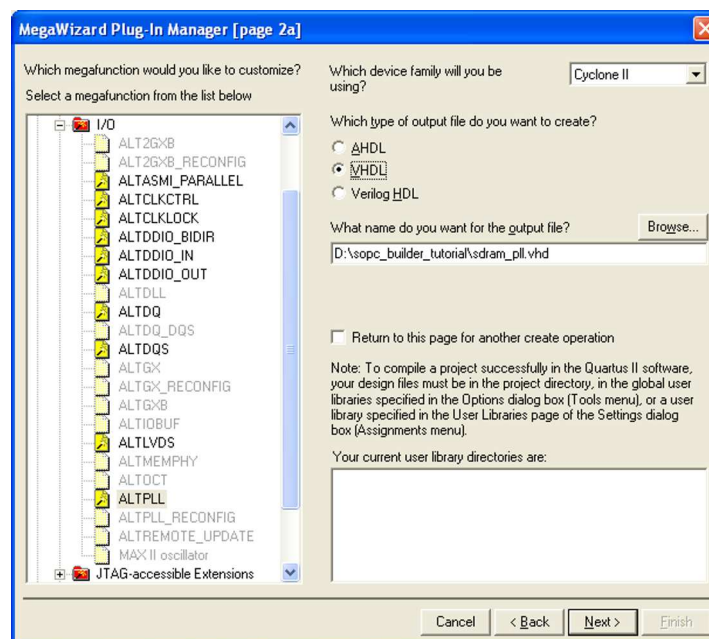

Figure 12. Select the megafunc-tion and name the output file.
2. In the window in Figure 12, specify that Cyclone II is the device family used and that the circuit should be defined in VHDL. Also, specify that the generated output (VHDL) file should be called *sdram\_pll.vhd*. From the list of megafunc-tions in the left box select I/O > ALTPLL. Click Next.